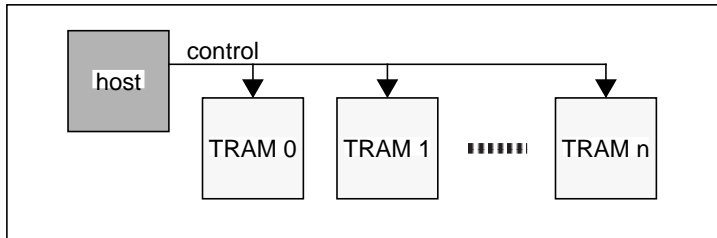

Figure 8. Control architecture for 3L/toolset
- the host computer controls all of the processors in the system. This configuration is suitable for the Inmos toolsets and 3L scientific languages where the various tools in the programming environment (compilers, linkers etc.) are invoked from the host computer. Figure 8 shows what this looks like.